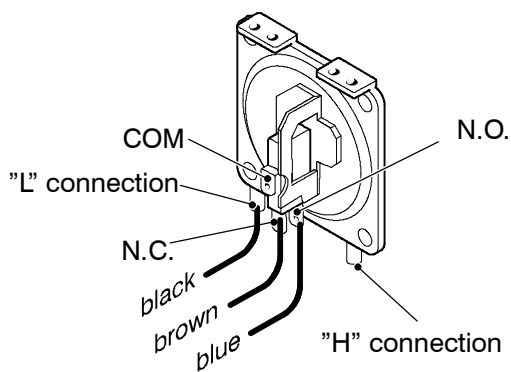
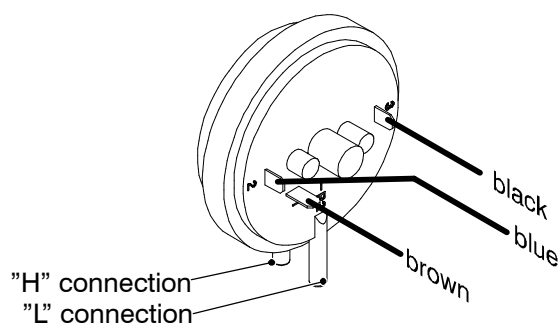
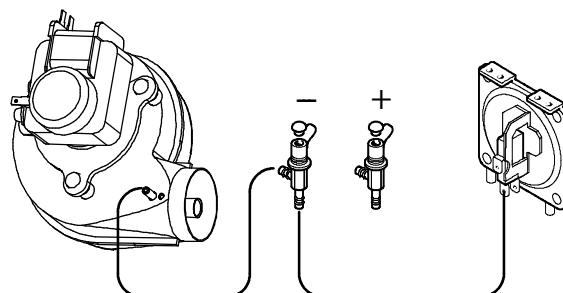

Fig. 70a
Fig. 70b
Fig. 73
Refer to the Fig. 70a or b in accordance with the type of air pressure switch used.
**Warning:** to correctly connect the venturi device to the Air pressure switch, refer to Fig. 73.
**Warning:** to correctly connect the Air pressure switch, refer to Fig. 73 and Fig. 70a or Fig. 70b for the correct wiring.